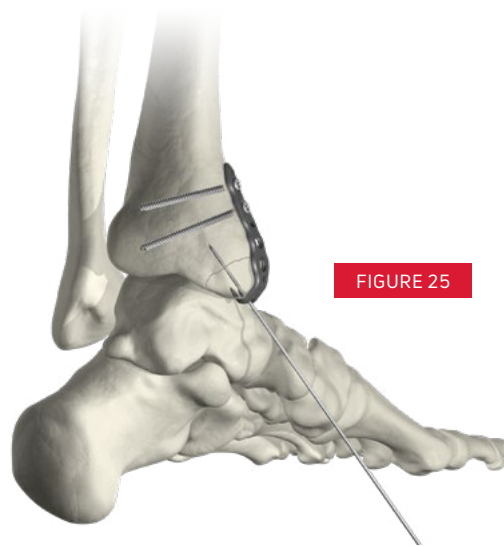

FIGURE 25
11. (OPTIONAL) Based on surgeon preference, a 4.0mm cannulated screw may be placed between the tines in an oblique fashion. At this time, a 0.045" K-wire placed in the central aspect of the Arsenal Ankle Hook Plate Drill Guide can be used or a 0.045" placed for guidance (**FIGURE 25**).